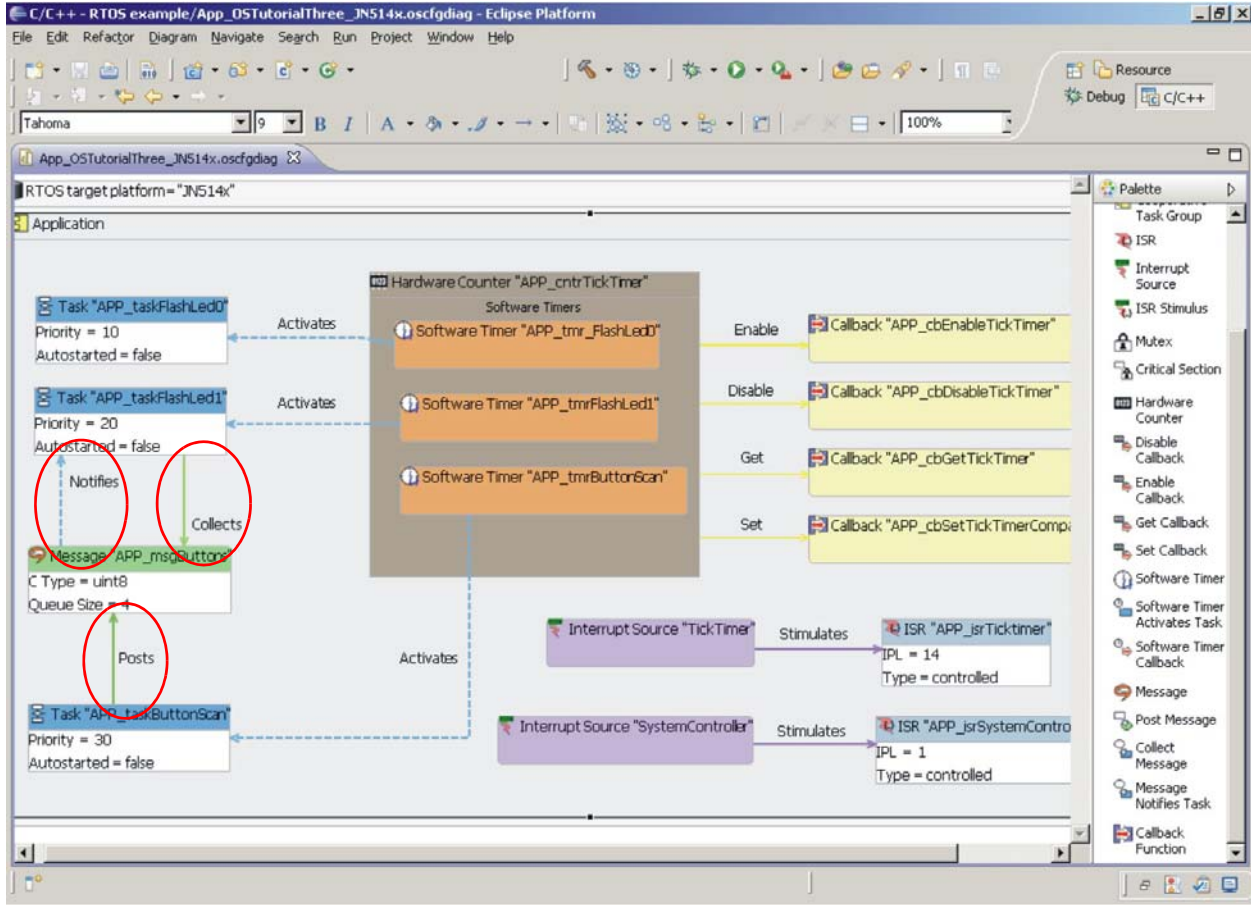

Figure 26: Connecting the Message Queue
Step 6 To connect up the tasks and Message queue, make the following additions to the diagram (also refer to Figure 26):